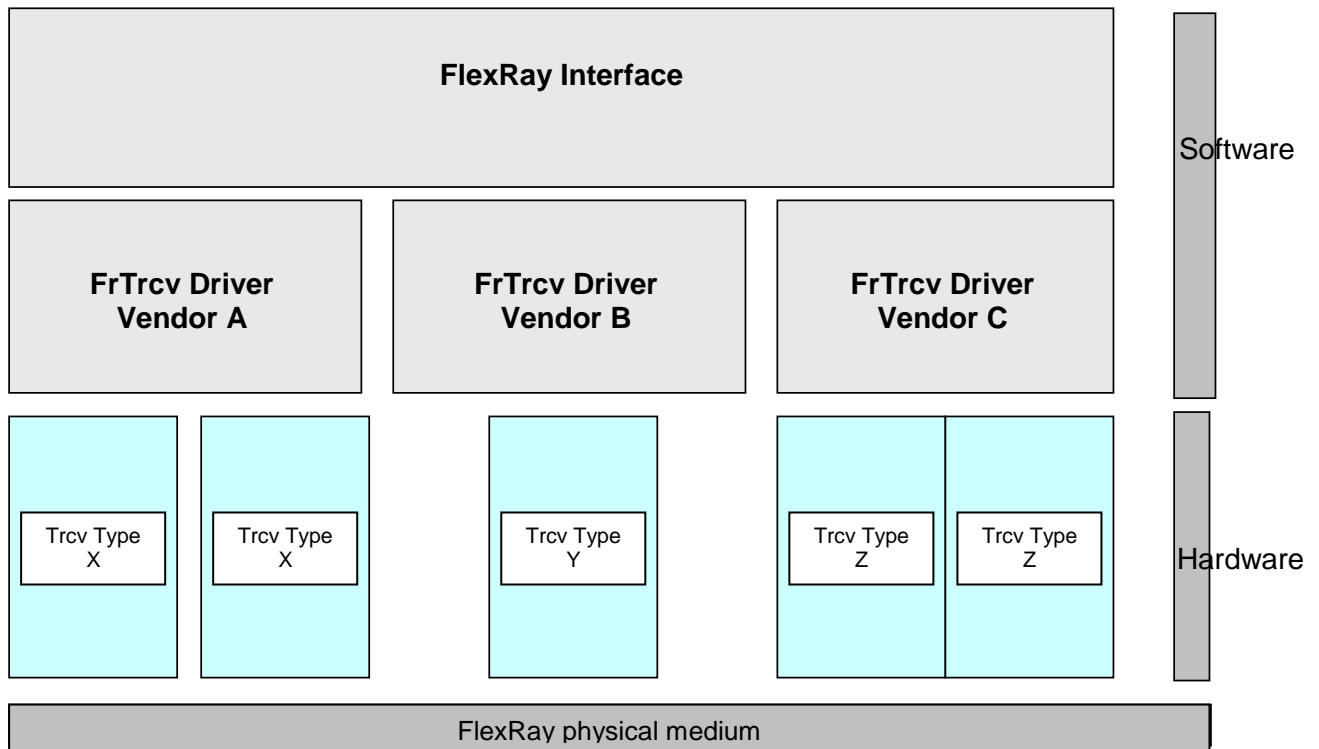

Figure 1: Description of the basic structure of the FlexRay Stack
Figure 1 depicts the basic structure of the FlexRay stack. One FlexRay Interface accesses several FlexRay Transceivers (Trcv Type X .. Z) using one or several FlexRay Transceiver Driver(s) (FrTrcv Driver Vendor A...C) from different vendors. A zero based index (FrTrcv_TrvcIdx) identifies the transceiver within the context of the transceiver driver:
E.g. FlexRay transceiver node A of FlexRay transceiver type Z is addressed by the index 0, node B by the index 1 in the example in **Figure 1**.